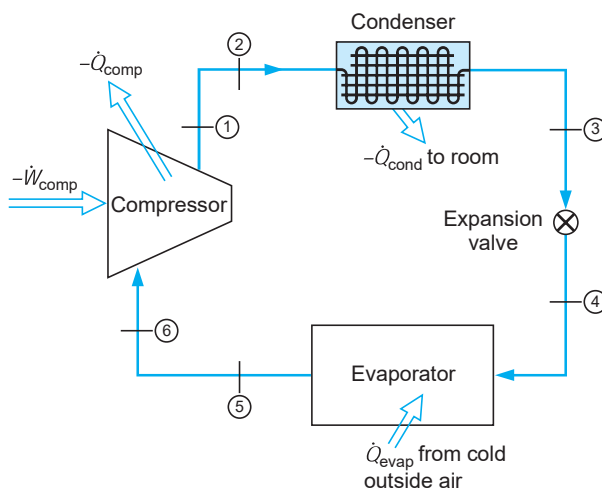

FIGURE P6.108
- 6.108** An R-410a heat pump cycle shown in Fig. P6.108 has an R-410a flow rate of 0.05 kg/s with 5 kW into the compressor. The following data are given: